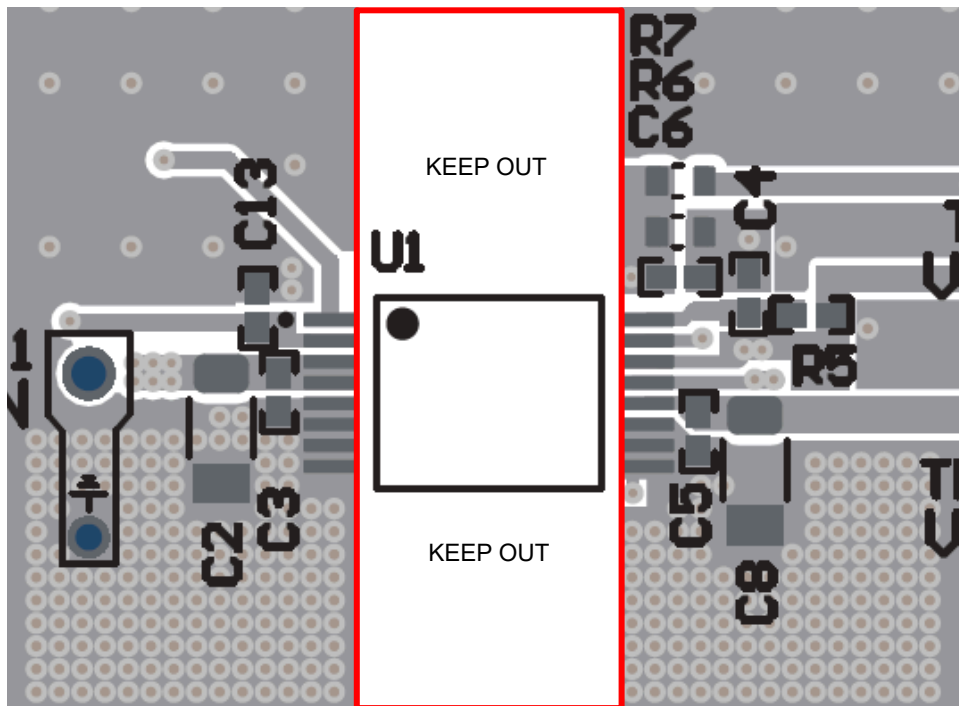

Figure 8-8. Isolation Keep Out Region
7. Creepage clearance: To maintain the full creepage, clearance and voltage isolation ratings specified in the data sheet, avoid routing signal traces or placing components directly under the UCC34141-Q1. Maintain the clearance width highlighted in red, throughout the entire defined isolation barrier. Keep-out clearance for basic isolation can be 50% less than the reinforced isolation requirement (8.2mm). Using 8.2mm provides additional margin. A layout example is shown in Figure 8-8.